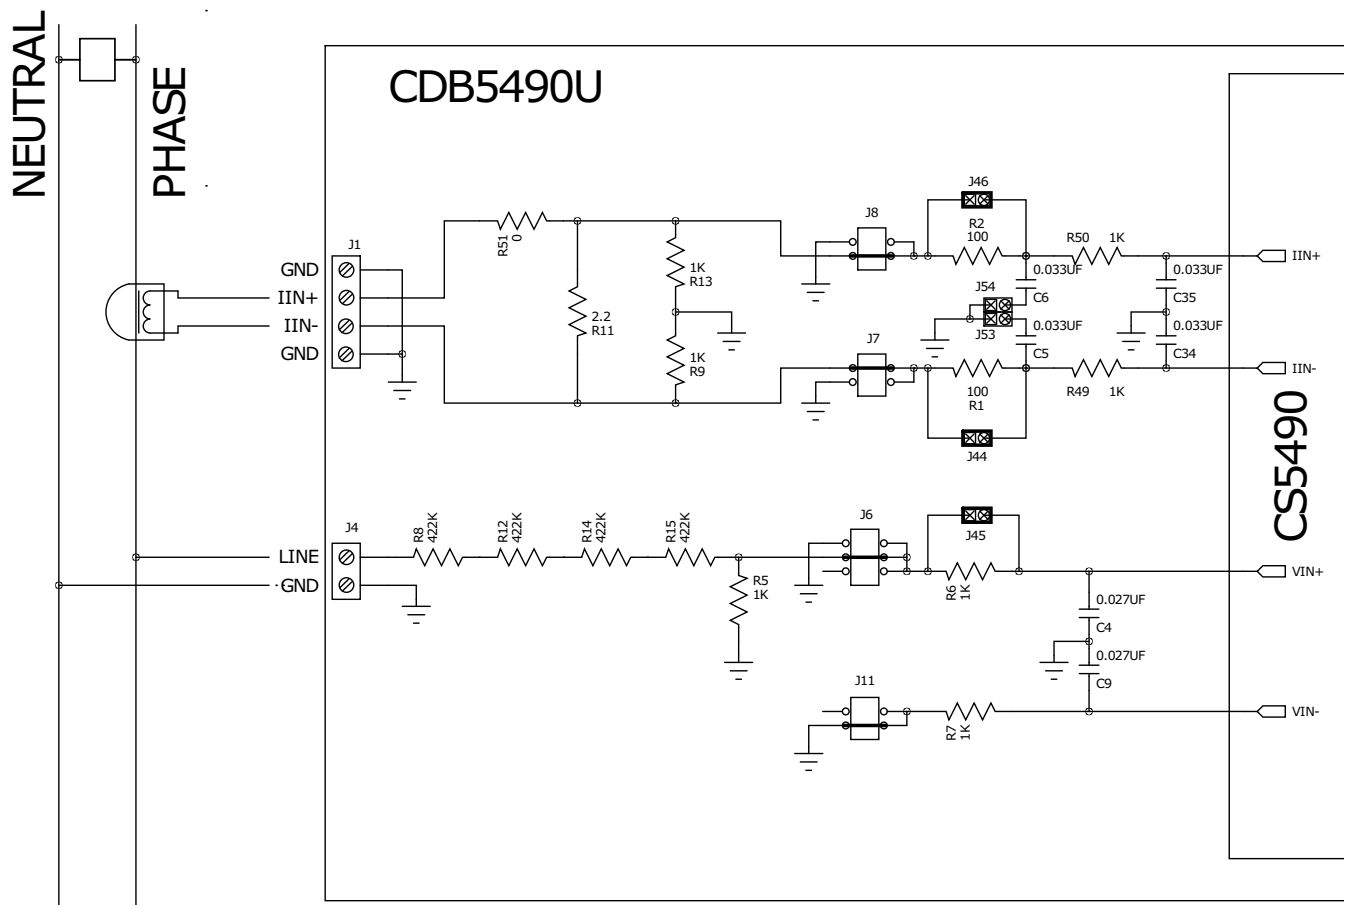

Figure 7. Current Transformer Power Meter
A slightly more expensive option is to use a current transformer (CT) to connect the AC mains to the CDB5490U evaluation board. Figure 7 depicts the voltage and current connections for a CT sensor and its associated filter configurations.